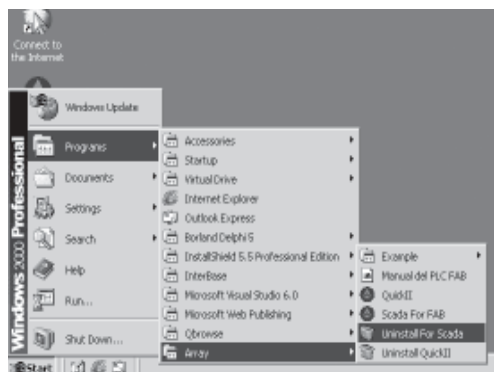
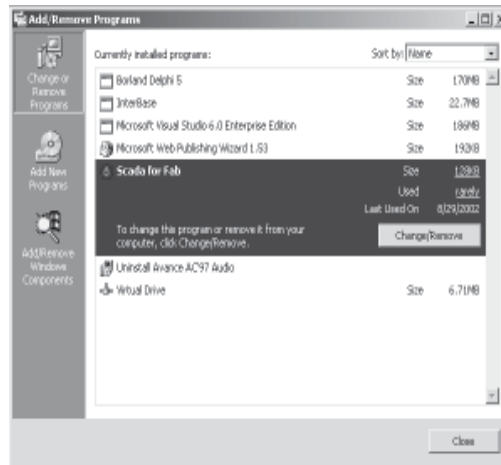

Fig. 2-8 Installation System 1
Fig. 2-9 Installation System 2
Step 7. Uninstall the system. This task needs to be run when the system is not needed or the system does not work normally. (Certainly, data need to be backed up before the uninstallation. As to backup, we will explain further in the following chapters). Click **Setup** in **Control Panel** in Fig. 2-8, and then click **Installation** to enter the interface in Fig. 2-9. Select **SCADA for FAB** (Setup while installation) in the Listing Frame and then click **Add/Delete**.